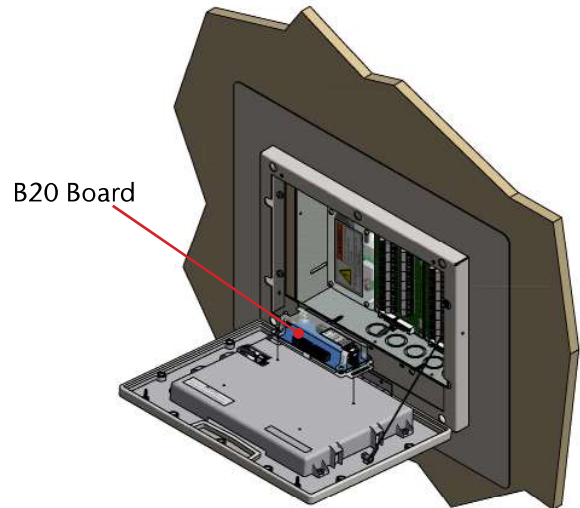

Figure 211: Front Panel Installation
5. Install B20 I/O module to the back of the Front Panel assembly using the screws provided on the cover (Figure 211).